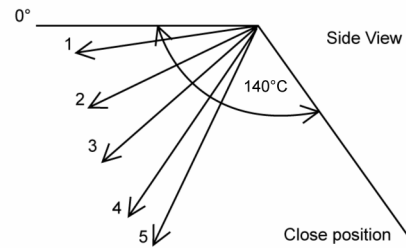

Figure 2
- 2 Manual vertical airflow direction can be set using remote control; the angles of the vane are as stated above and the positions of the vane are as Figure 2 below. When the air conditioner is stopped using remote control, the vane will shift to close position.